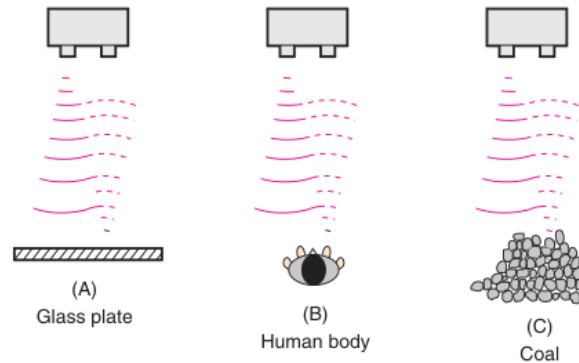

Fig.31 Types and shapes of detection objects.
6. Types and shapes of detection objects (reflective type-Fig.31): Detected objects can be classified as follows: